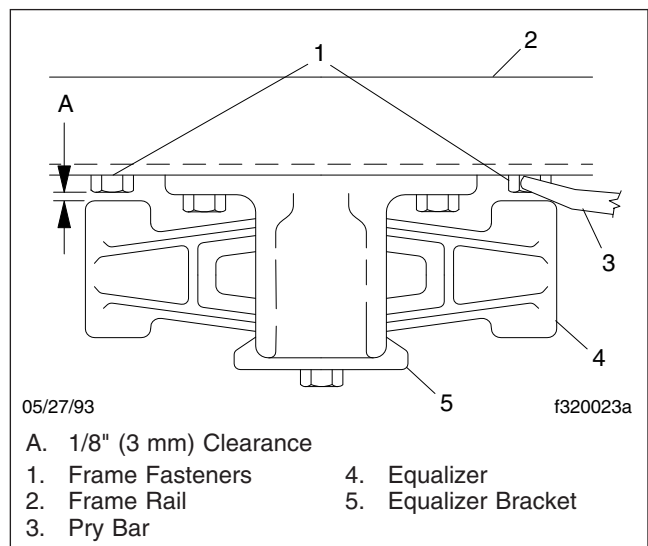

Fig. 3, Top View of the Equalizer
7. With the vehicle unloaded, attempt to move the equalizer side to side, using a pry bar between the equalizer and frame rail. Apply hand pressure only. See **Fig. 3**. If clearance between the equalizer assembly and any frame component or fastener is less than 1/8 inch (3 mm), replace the equalizer bushings. See **Group 32** of the *108SD and 114SD Workshop Manual* for instructions.